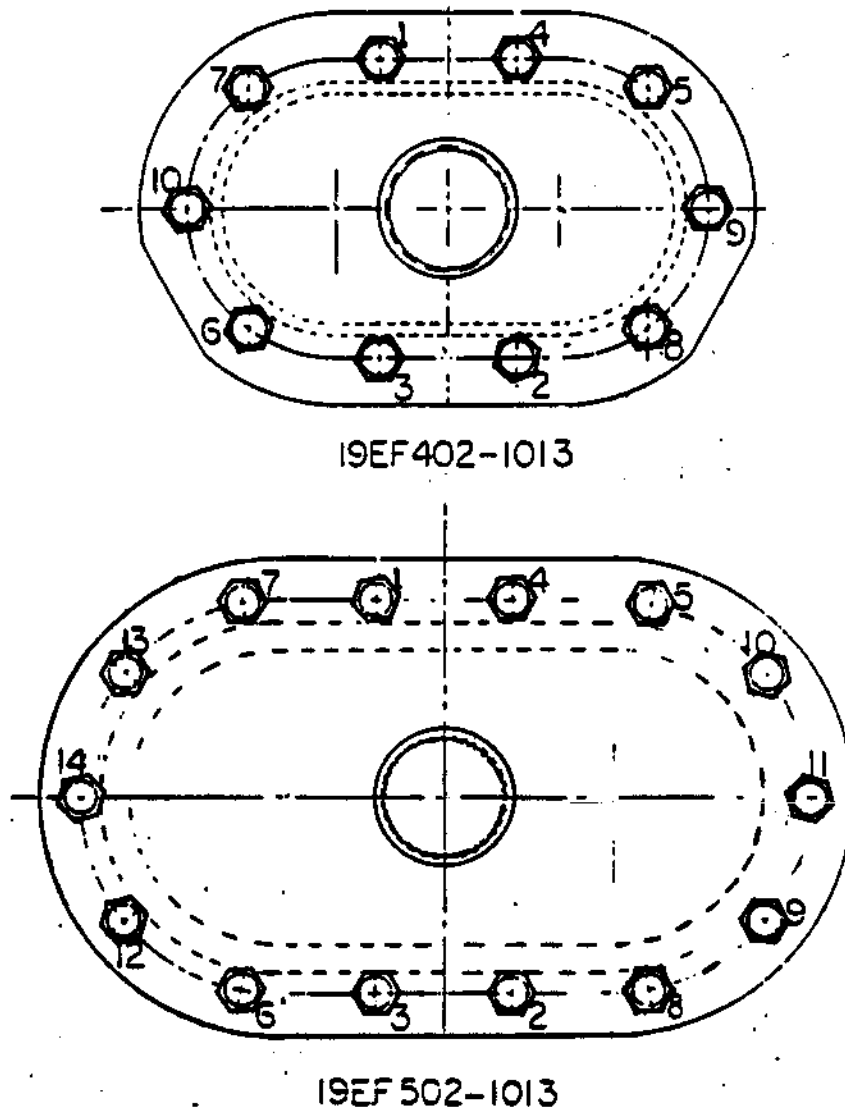

Fig. 1 - Torque Sequence
2. Install terminal board to motor shell bolts and washers and evenly tighten bolts to approximately 5 ft/lbs. Then torque bolts to 12-15 ft/lbs in a sequence as shown in Fig. 1.